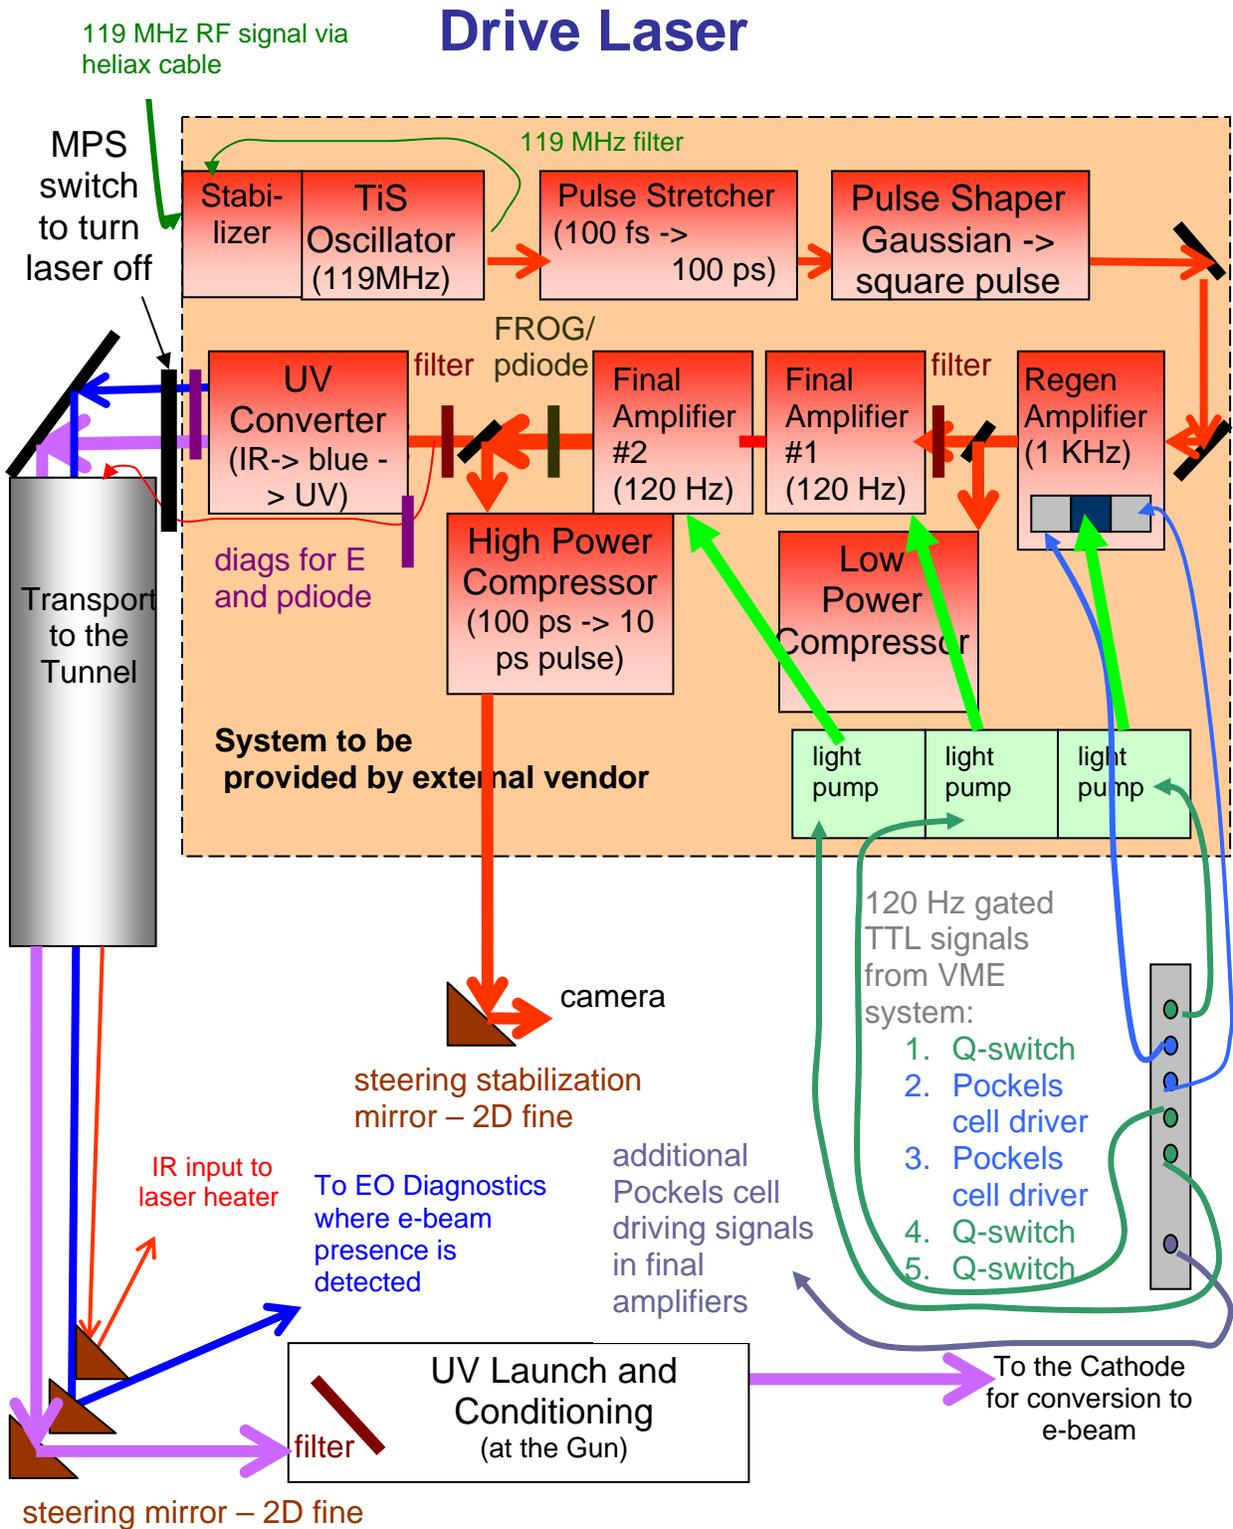

Figure 1 Drive Laser Schematic
A schematic for the drive laser is shown in Figure 1. The decision has been made to contract out the part of the drive laser system (shown as area inside dotted rectangle on Figure 1) which contains the stabilizer, the TiS oscillator system, the pulse stretcher, the pulse shaper, the amplifiers, the compressor and possibly the UV converter (depending on the selected vendor).
11. **preamplifier (Regen) control:** send 2 gated, 120 Hz signals via TTL (shown on Figure 1) for Pockels cells
12. **light pump for preamplifier control:** send gated, 120 Hz signal via TTL (shown on Figure 1) for Q-switch